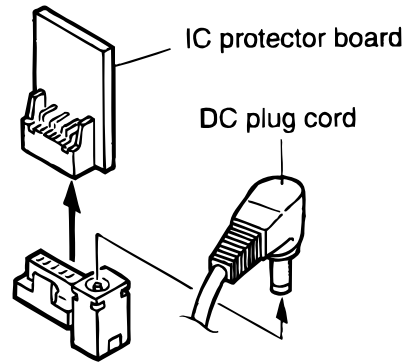

Fig. 7
4. Disconnect the DC plug cord from the connector on the main board (Fig.7).